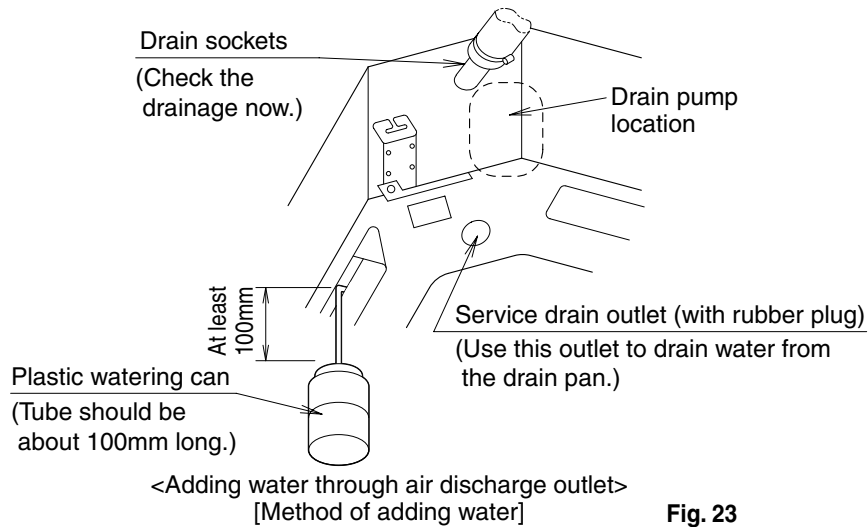
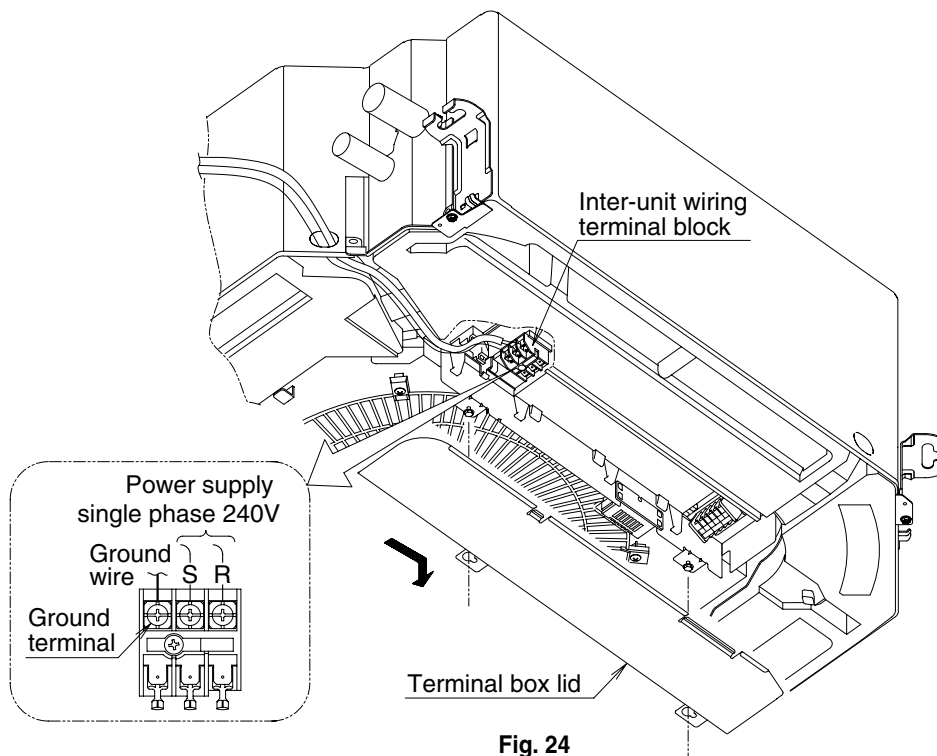

Fig. 23
Fig. 24
- When the power is turned on, the drain pump will operate and you can check the draining of water through the transparent part of the drain socket. (The drain pump will stop automatically in 10 minutes.) After checking the draining of water, mount the thermal insulation material for drainage (14) and thermal insulate the drain socket.
- After confirming drainage (**Fig.23, Fig.24**), turn off the power and remove the power supply.